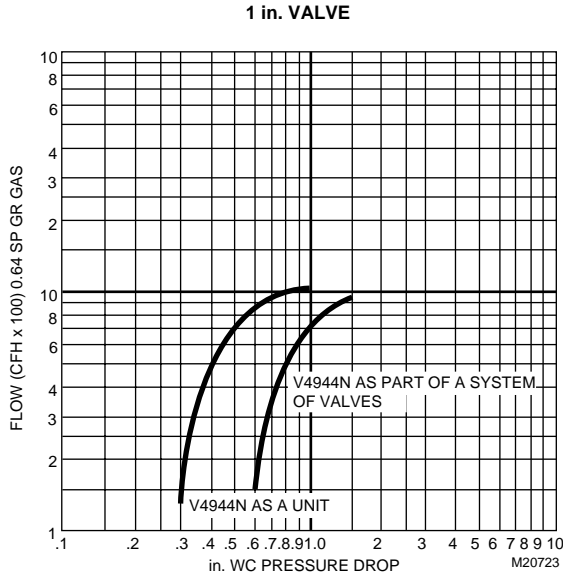

Fig. 2. Capacity vs. pressure drop curves for 1 in. valve.
5. Use the corrected capacity in cfh when determining the gas valve size in Fig. 2, 3, or 4.
6. Determine the maximum pressure drop across the valve and draw a vertical line at this pressure in Fig. 2, 3, or 4.
4. Find the valve size from Fig. 2, 3, or 4.